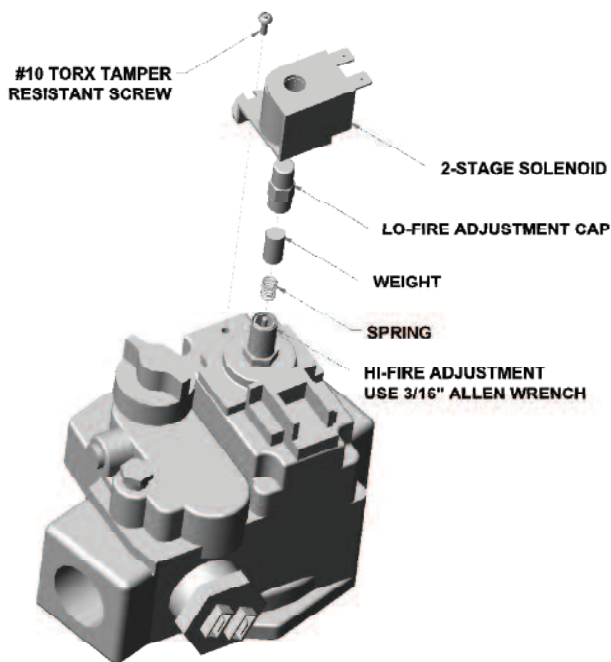

Fig. 31: Gas Valve Adjustment (Invensys Valve)
2. Locate and remove the Torx tamper resistant screw. (Shown in Fig. 31)